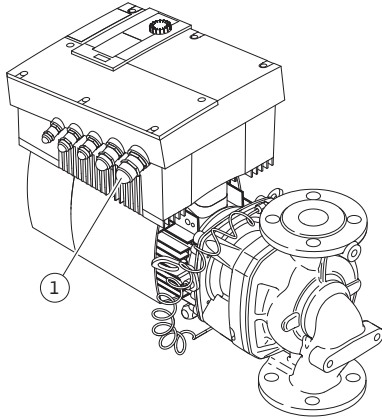

Fig. 25: NPT^{3/4} " threaded cable connection
- The electrical connection must be established via a fixed power cable which has a plug attachment or an all-pole switch with a contact opening width of at least $\frac{1}{8}$ " (3 mm). Use 140/167 °F (60/75 °C) copper conductors only. The power cable is to be fed through the NPT $\frac{3}{4}$ " threaded cable connection (Fig. 25, Item 1). Cross-section of power cable to be maintained: